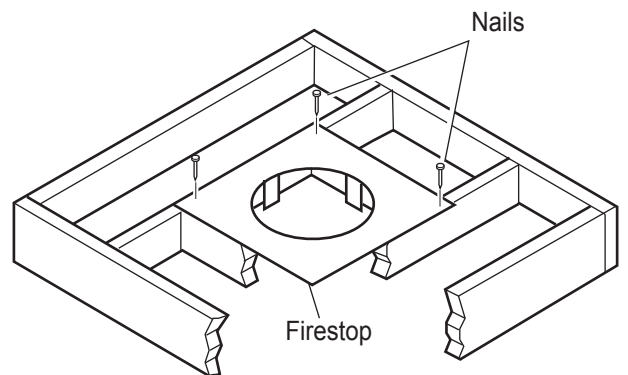
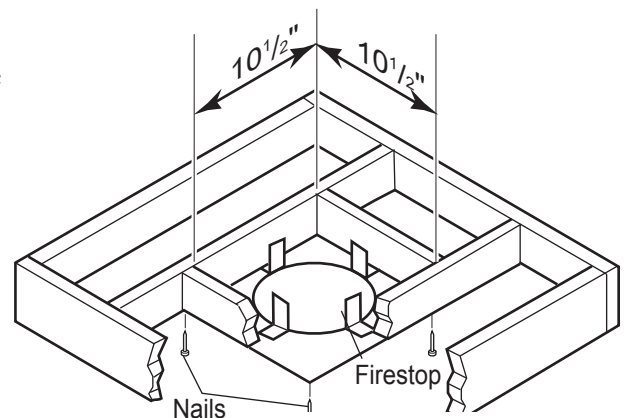

Figure 28- If area above is a room, install firestop above framed hole as shown
Figure 29 - If area above is not a room, install firestop below framed hole as shown
1. Cut a 10¹/₂" (267mm) square hole in the ceiling using the locating hole as a center point. The opening should be framed to 10¹/₂"x10¹/₂" (267mm x 267mm) inside dimensions as shown in Figure 12, page 17 using framing lumber the same size as the ceiling joist. If the area above the ceiling is an insulated ceiling or a room, nail firestop from the top side. This prevents loose insulation from falling into the required clearance space. See Figure 28. Otherwise, install firestop below the framed hole. The firestop should be installed with no less than three nails per side. See Figure 29.